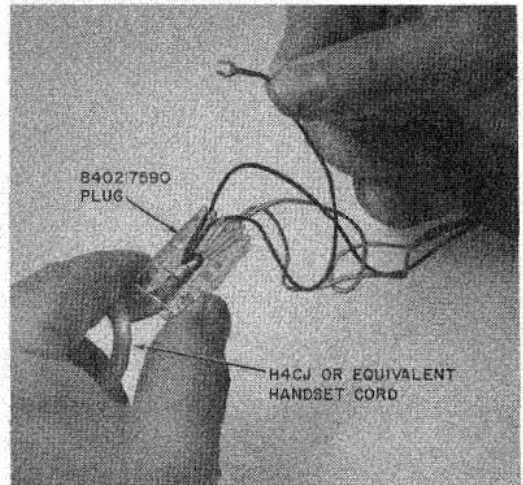

Fig. 4—Installation of Spade-Tipped Handset Cord Leads
**3.08** *Installing Spade-Tipped Handset Cords in Early Production Sets Equipped with G12A Handset:* To install spade-tipped handset cord (H4CJ or equivalent) remove J Hook Stayband from the cord. Cut back and remove cord sheath to stayband marks. Thread spade-tipped conductors through plug (Fig. 4) (spade tips must be bent to clear cord entrance). Pull cord until about 1/4-inch of cord sheath is in the central
*Note:* On later version of the telephone set base, a plug (Fig. 4) is not required and a notch is provided on front lip of base pan for J Hook Stayband of nonmodular type cords.